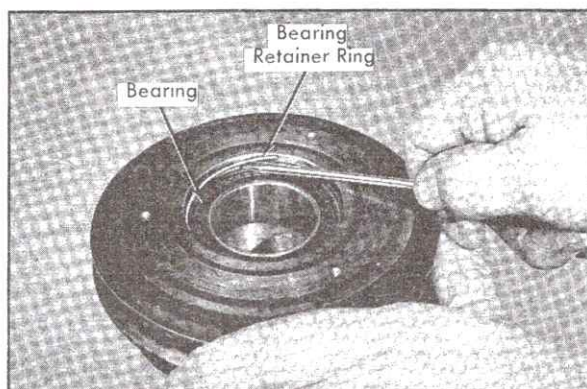

Fig. 1-37 Removing Pulley Bearing Retainer Ring
3. Remove pulley bearing retainer ring with a small screwdriver or pointed tool, Fig. 1-37.